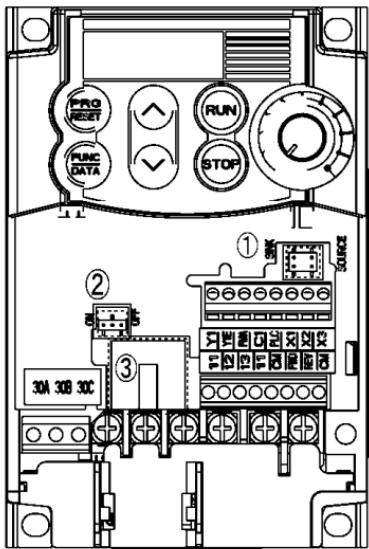

Figure 2.11 Locations of Jumper Switches and RJ-45 Connector
For the location of the RJ-45 connector, refer to Figure 2.11 "Locations of Jumper Switches and RJ-45 Connector."
Switching the jumper switches (shown in Figure 2.11) allows you to customize the specifications of the digital I/O terminals and the RS-485 communication terminating resistor.
① SW1	SINK/SOURCE switch for digital input terminals <ul style="list-style-type: none">• To use digital input terminals [X1] to [X3], [FWD] and [REV] in the SINK mode, set a jumper in the sink position, to use them in the SOURCE mode, set a jumper in the source position. (See Figure 2.11.)• To switch between SINK and SOURCE modes, use a mini needle-nose pliers or the similar tool to change the mounting position of the jumper.
② SW3	Terminating resistor ON/OFF switch for RS-485 communication <ul style="list-style-type: none">• To connect an optional remote keypad, set a jumper in the OFF position (factory default).• If the inverter is connected to the RS-485 communications network as a terminating device, set a jumper in the ON position.• To switch the terminating resistor ON and OFF, use a mini needle-nose pliers or the similar tool to change the mounting position of the jumper.
Figure 2.11 shows the locations of jumper switches and the RJ-45 connector.